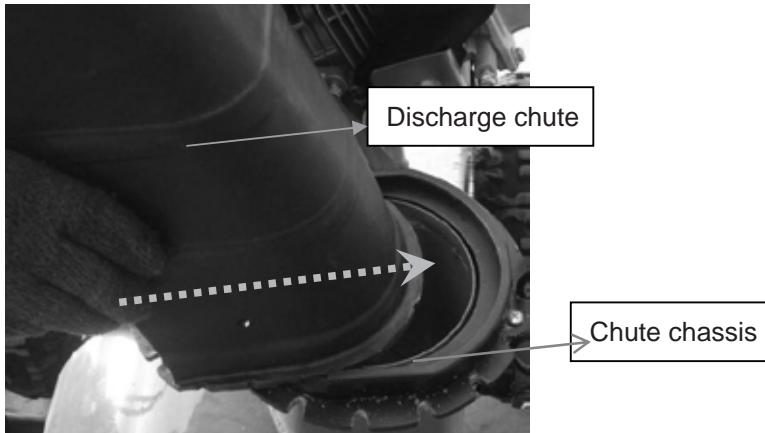

Fig.4
2. Put the discharge chute into the chute chassis as shown (Fig.4)